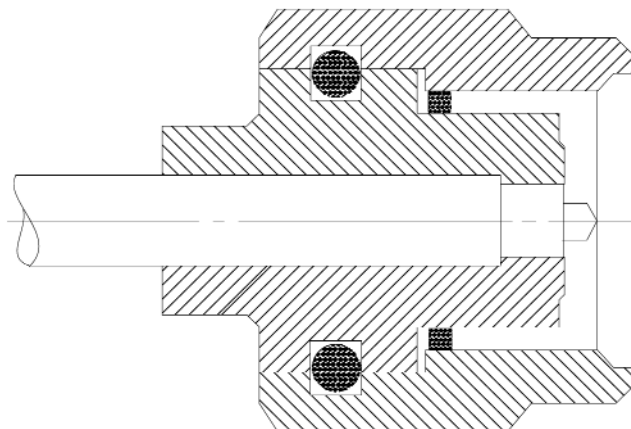

Figure 4. V101M Connector, Fully Assembled View
- t. Referring to Figure 4, inspect cable assembly to ensure following:
- (1) Center conductor is tapered smoothly and has no nicks
- (2) Face of microporous Teflon dielectric is 0.125 mm below face of outer conductor.
- (3) Teflon is not distorted.